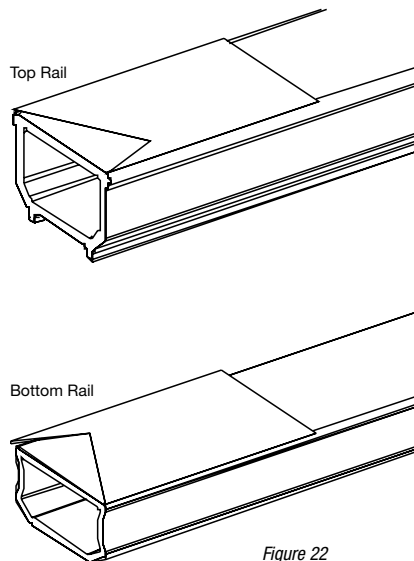

Figure 22
3. Position the template on the non-routed flat side of the top rail. Mark the proper cutting angle (Figure 22).
4. Position the template on the non-routed bottom surface of the bottom rail (Figure 22). Mark the proper cutting angle. Template will be reversed from top rail.